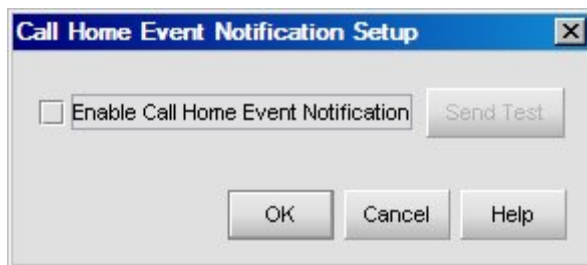

Figure 3.44. Call Home Event Notification Setup dialog box
2. Select **Monitor > Event Notification > Call Home....** The Call Home Event Notification Setup dialog box displays, as shown in Figure 3-44.
- a. Select **Monitor > Event Notification > Call Home....** The Call Home Event Notification Setup dialog box displays, as shown in Figure 3-44.